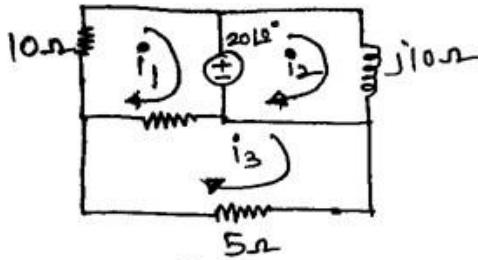

fig 3.3
4. Find the current through 5Ω resistor shown in fig 3.3 and hence verify reciprocity theorem.
Sample circuits for the question bank given (fig 3.3 to 8.1)